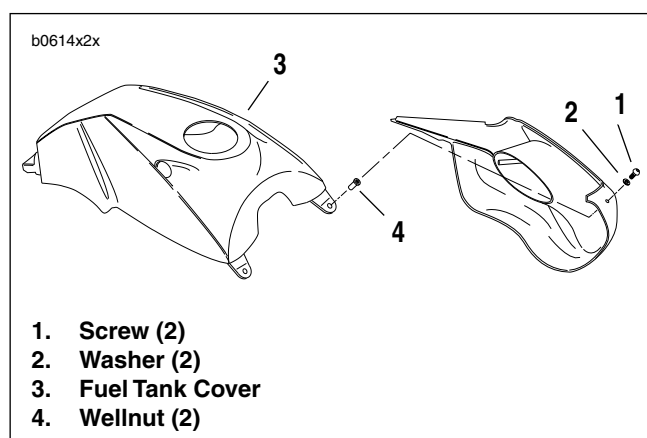

Figure 2-123. Fuel Tank Cover
4. See Figure 2-123. Remove two screws (1), washers (2) and wellnuts (4) at front of tank cover.
2. See Figure 2-123. Secure front of fuel tank cover (3) with screws (1) and washers (2) through wellnuts (4).